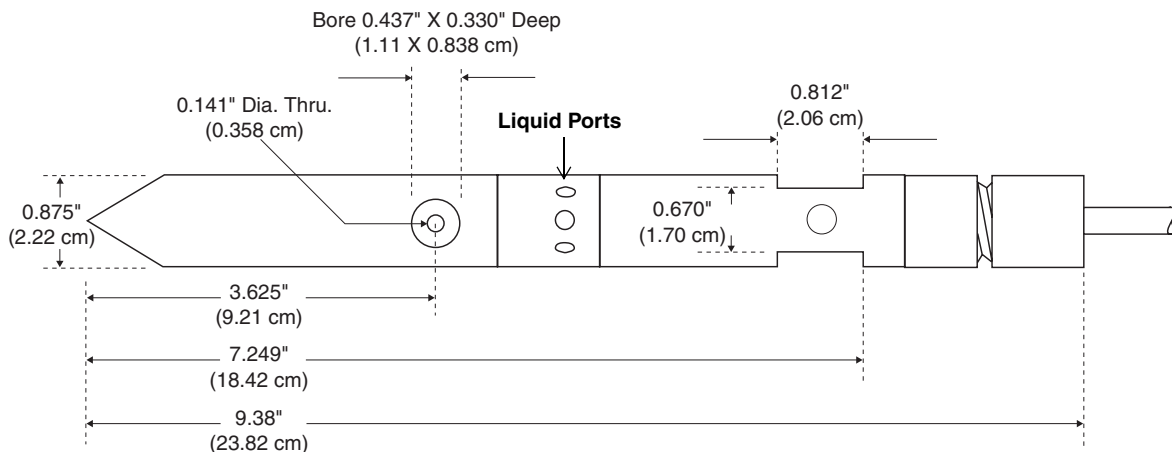

Figure 3-1 Submerged Probe Dimensions
- 4.3.4 Weirs and Flumes** The 720 is generally used with some type of primary measuring device, such as a weir or flume. The placement of the submerged probe in the primary device is determined by the type of primary device. You can use one of Isco's mounting rings to install the probe in many weirs and flumes. If the mounting ring are not suitable, you must build your own mounting hardware. Figure 3-1 shows the dimensions of the probe for your reference when building your own hardware. Figure 4-6 shows the probe installed in several primary devices.